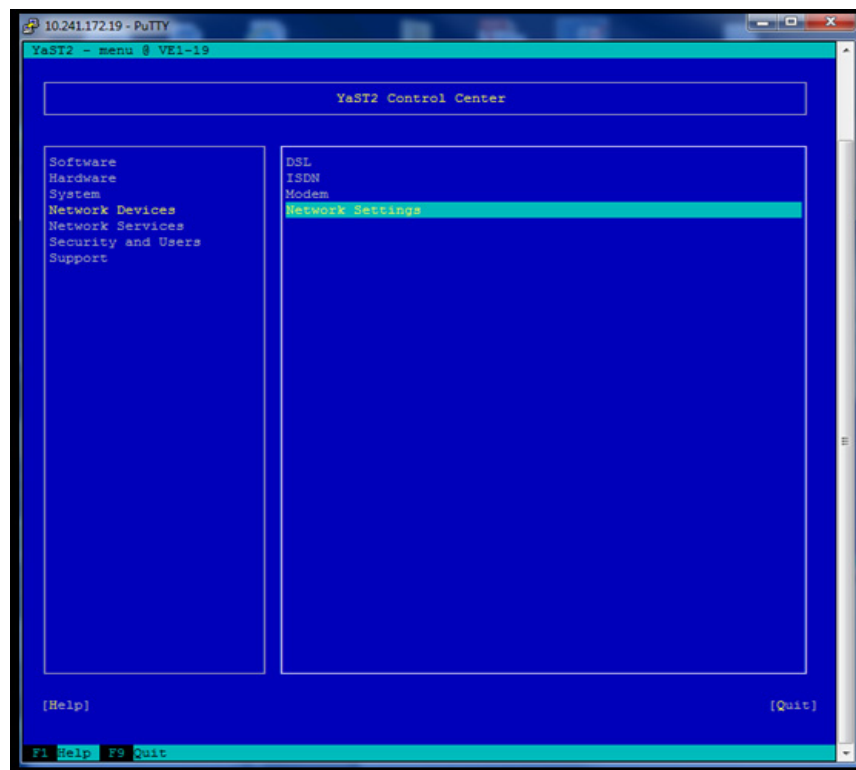

Figure 170 Selecting Network Settings
4. Use the **Tab** key to navigate to the right-side pane, and then select **Network Settings**, as shown in Figure 170 on page 129.